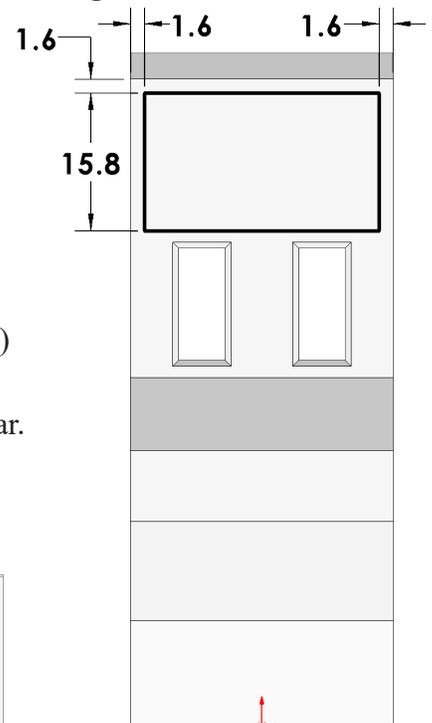

Fig. 41
Step 4. Sketch corner rectangle on the bed, **Fig. 41**.
Step 6. Add dimensions, **Fig. 41**.